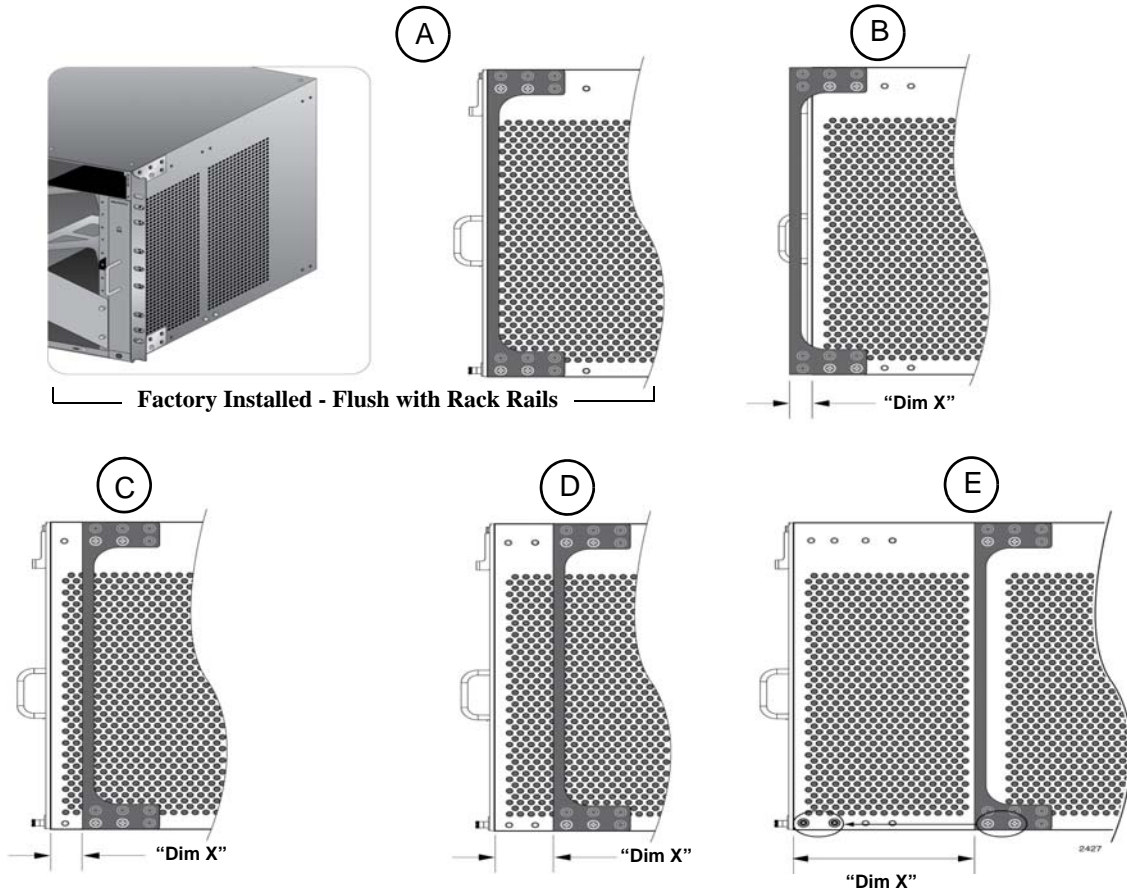
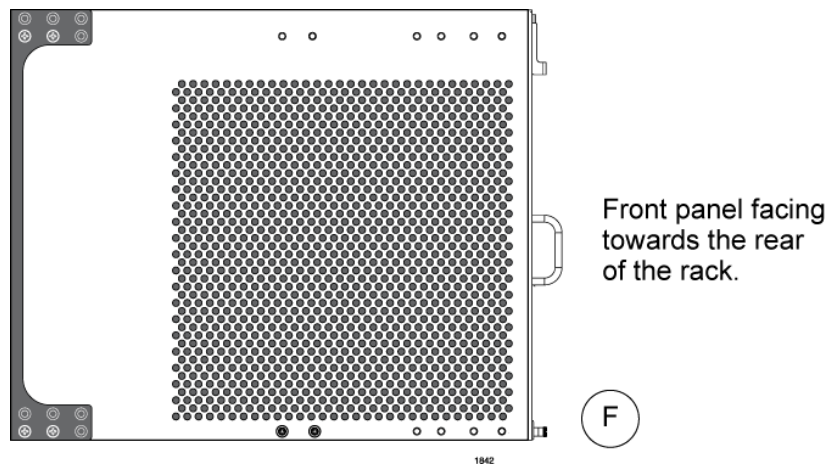

Figure 46. Rack Mounting Bracket Locations
Figure 47. Rack Bracket Locations for Reverse Position of Chassis
You adjust the brackets by removing them and re-installing them in different positions on the sides of the chassis. The different bracket positions are listed in Table 29 and illustrated in Figure 46 on page 121 and Figure 47 on page 121. Please review the following information before moving the brackets:
- To install the rack mount brackets in position “E,” you have to remove the two chassis screws from the bottom-middle section of the chassis and re-install them in front where the rack mount bracket screws were originally, as shown in Figure 46 on page 121.
- The dimension (X) between the front panel and the rack rails is given for each rack mounting bracket position in Table 29.